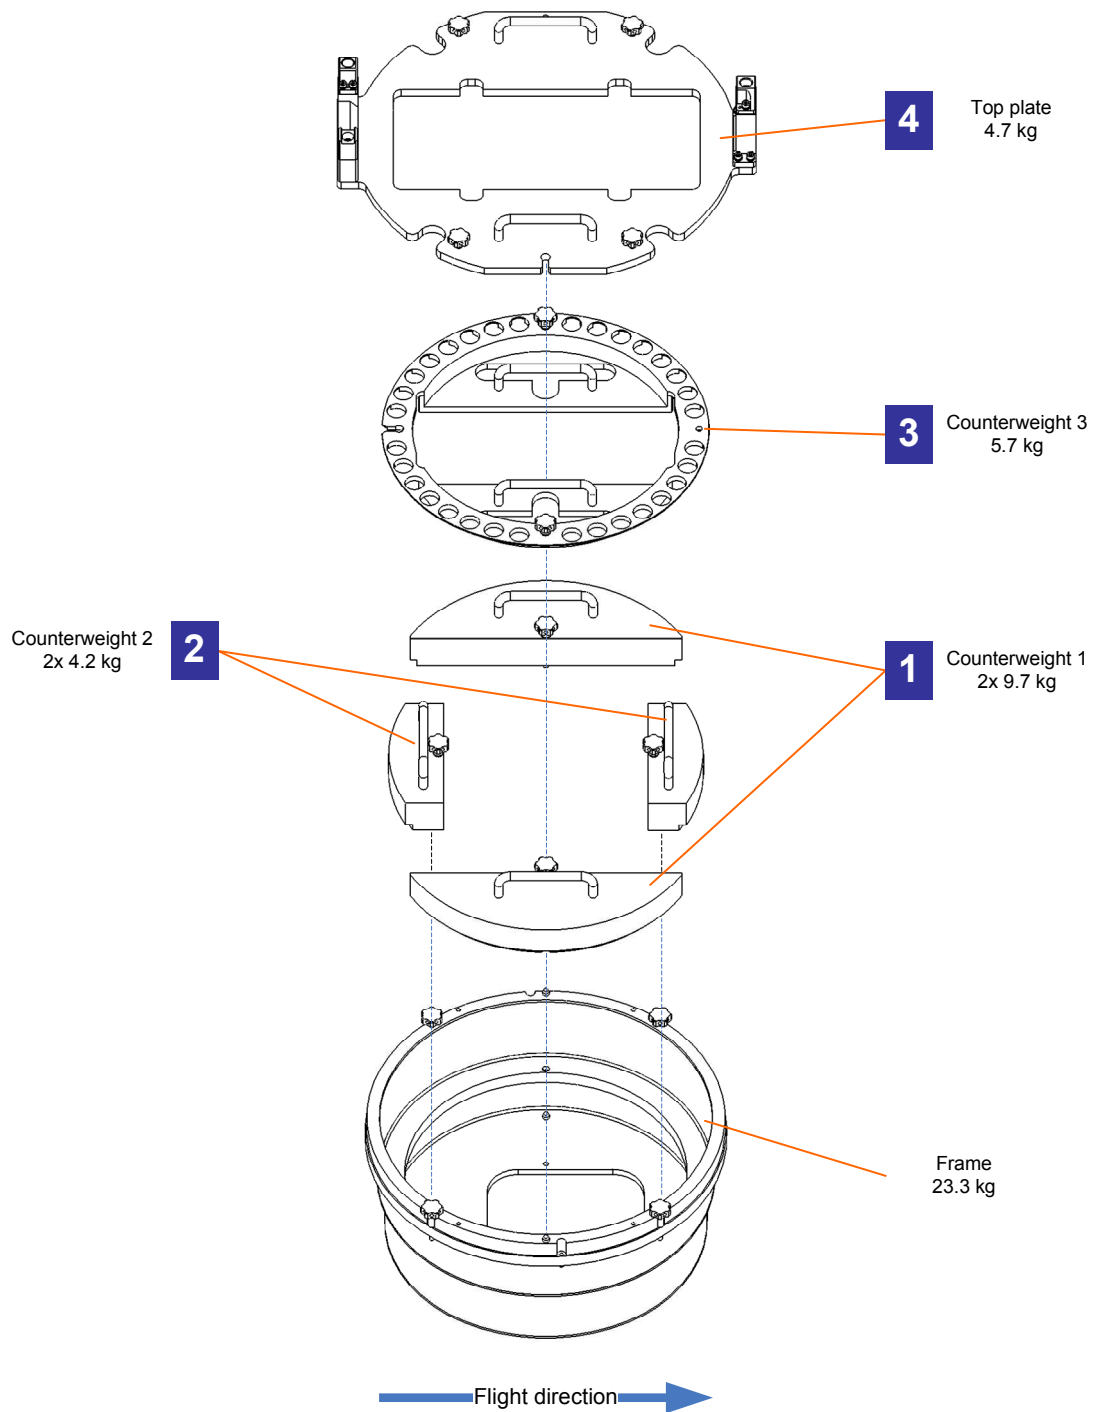

Figure 1.2: Sequence of mass-compensator assembly.
- Put counterweights and top plate into the housing in sequence shown on figure 1.2.